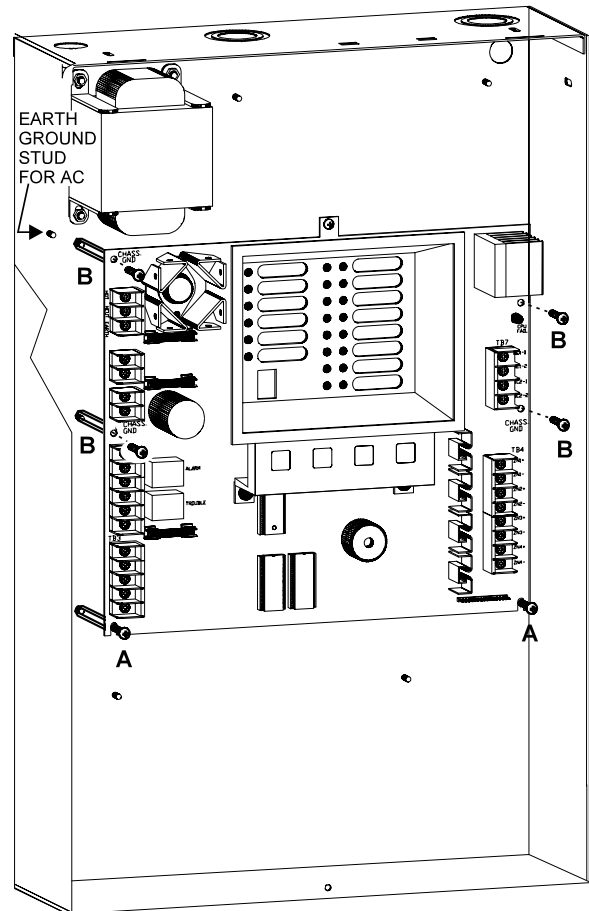

Figure 6
- 5. Install the Main board.** Mount the Main board to the standoffs in the center of the enclosure (Refer to Figure 6).
- labeled **A** in Figure 6, leaving a 1/4 inch gap between the standoff and the head of the screw.
- a. Run Earth Ground from a suitable source to the Earth Ground stud on the chassis (See Figure 6 for the location of the stud). Secure in place using the two #8 nuts provided. Check local requirements. **Conduit is not an acceptable ground.**